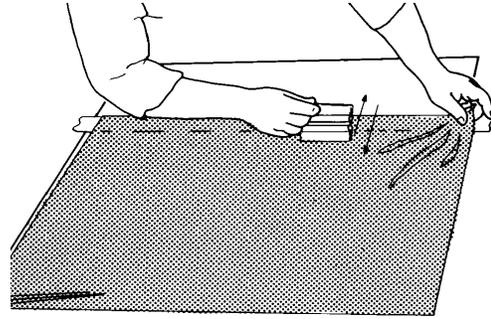

Figure 7. Applying the First Piece of Film
5. Using the wet application procedure (beginning on page 4), apply the first piece of film, making sure that it overlaps the cutting strip. See Figure 7.